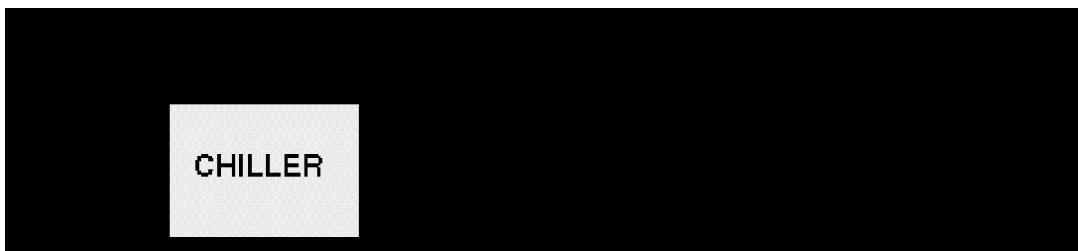

Fig.19
**Solution 1b:** if you want to give priority to T2 (e.g. low temperature threshold=6°C with one minute's delay) locate the main sensor NTC1 at the water outlet. The parameters will be set as follows:  $St1=-5^{\circ}C$  ( $NTC1-NTC2$ , that is  $T2-T1$ ), direct mode ( $C0=1$ ).  $P25=6$  and  $P28=1$  (min.) allow you to set the low temperature alarm, as shown in the diagram below (fig. 19):